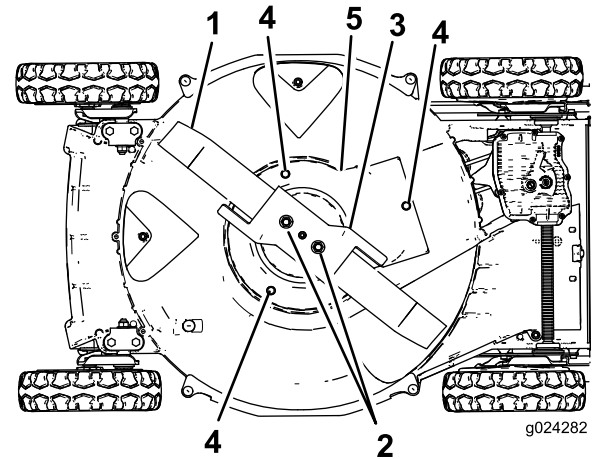

Figure 35
6. Remove the 2 blade nuts, the accelerator, and the blade (Figure 35).
7. Remove the screws that secure the blade-brake-clutch shield to the mower housing (Figure 35).